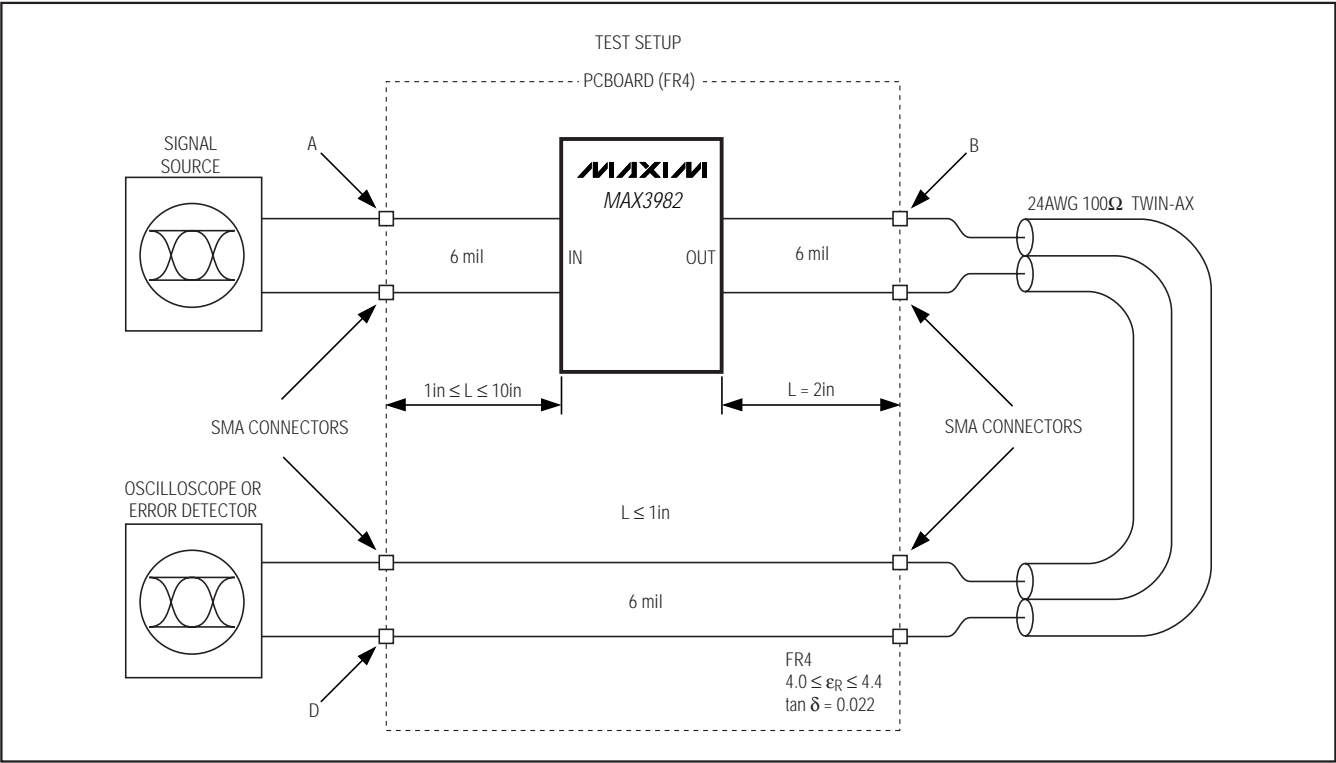

Figure 2. Test Setup. The points labeled A, B, and D are referenced for AC parameter test conditions. Deterministic jitter and eye diagrams measured at point D.
| Input Swing   |                                 | Measured differentially at point A of Figure 2 (Note 1)  |                                 |     |      | 600  |      | 2000              | mV P-P |
| Differential Output Swing   |                                 | Measured differentially at point B of Figure 2 (Notes 1, 2)                                    | TX_DISABLE = low, OUTLEV = high |     | 1450 |      | 1800 | mV P-P |                   |
| Common-Mode Output  |                                 | (OUT+) + (OUT-), measured at point B of Figure 2; TX_DISABLE = low, OUTLEV = high (Notes 1, 2) |                                 |     |      |      |      | 60                | mV P-P |
**Note 3:** Measured at point B in Figure 2 using 0000011111 at 1Gbps. PE1 = PE0 = 0 for minimum preemphasis. For transition time, the 0% reference level is the steady-state level after four zeros, just before the transition. The 100% reference level is the maximum voltage of the transition.
**Note 5:** Cables are unequalized, Amphenol Spectra-Strip 24AWG. Residual deterministic jitter is the difference between the source jitter at point A, and load jitter at point D in Figure 2. The deterministic jitter at the output of the transmission line must be from media-induced loss and not from clock-source modulation.